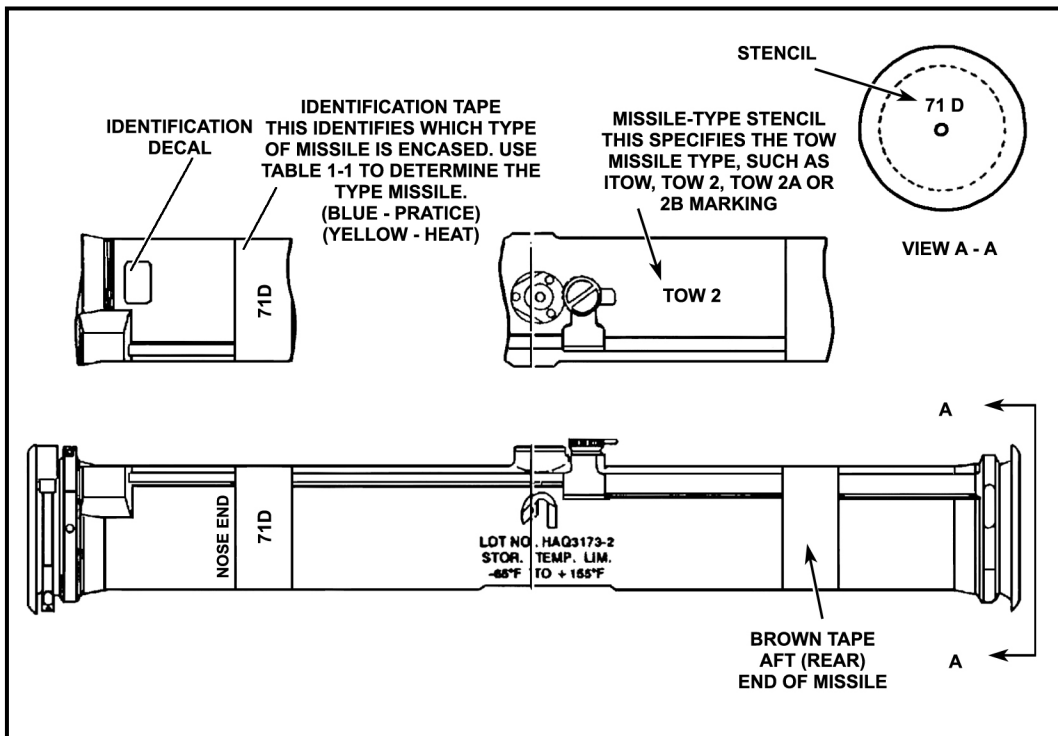

Figure 1-17. TOW basic missile with identification.
a. **TOW Basic (BGM- and BTM-71A-Series)** (Figure 1-17). This is the original TOW missile that was developed in the 1960's. It was originally designed with a range of 3,000 meters, but was extended to 3,750 meters, which is the range of all of the missiles except those with the AERO designation. The basic TOW has a 6-inch diameter body with a 5-inch diameter warhead, which has a crush switch (ogive) at the nose. The crush switch activates upon contact with the target, allowing the warhead to detonate. Both HEAT and practice warheads are available.